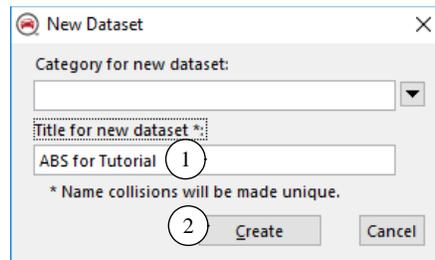

Figure 11. Specify a name for the new dataset.
2. Use the drop-down control for the new link (3) and select the option [**Link to New Dataset**] (4). You will be prompted to provide a name of the new dataset (Figure 11). Type a name such as ABS for Tutorial (1) and then click the **Create** button (2).